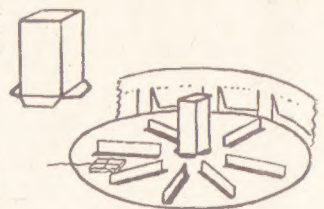

Fig. 5—Interior construction
Having made the circular side 33ins. long, place inside the circular top and glue tab edges round the top edge. Bend the eight tabs of the side marked (A) outwards, and glue to the cake base which already has the centre pillar glued to the centre. We now have completed a drum shape (see Fig. 5).